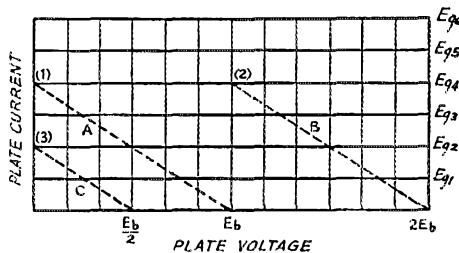

FIG. 1—PLATE FAMILY OF AN IDEAL PENTODE
First, it may be stated that it is not entirely impossible to plate-modulate the ordinary pentode. The characteristic curves of an ideal pentode are shown in Fig. 1. For fixed control-grid and screen voltages the plate current is constant for any value of plate voltage. Suppose such a tube were operating Class-C at a d.c. plate potential, E_b , a constant peak excitation, E_{p4} , and a fixed screen voltage and load, so that the plate current pulse flowed over some line, *A*, and the peak of the pulse occurred at (1). If the d.c. plate voltage is doubled the plate current pulse will flow over line, *B*, and peak at point (2). The peak current is unchanged, the fundamental component will be relatively unchanged, and there would be no increase in output. However, if the d.c. voltage is decreased to the value, $\frac{E_b}{2}$ the plate current